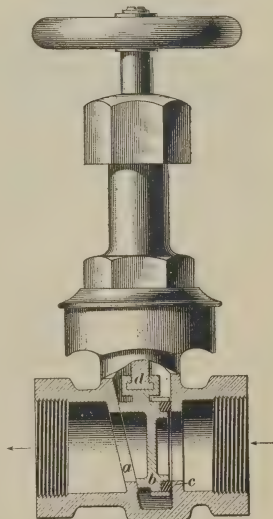

FIG. 73
**113.** The **Jenkins gate valve**, shown in Fig. 73, has a wedge-shaped body. An inclined guide *a* at one end forces the gate, or disk, *b* to its seat *c* when the spindle is screwed down tight. The disk is loose on the spindle *d*, being made with a recess; a removable ring is secured to the disk, the same as is done in globe and angle valves. This is a single-gate valve, bearing pressure only on one side.